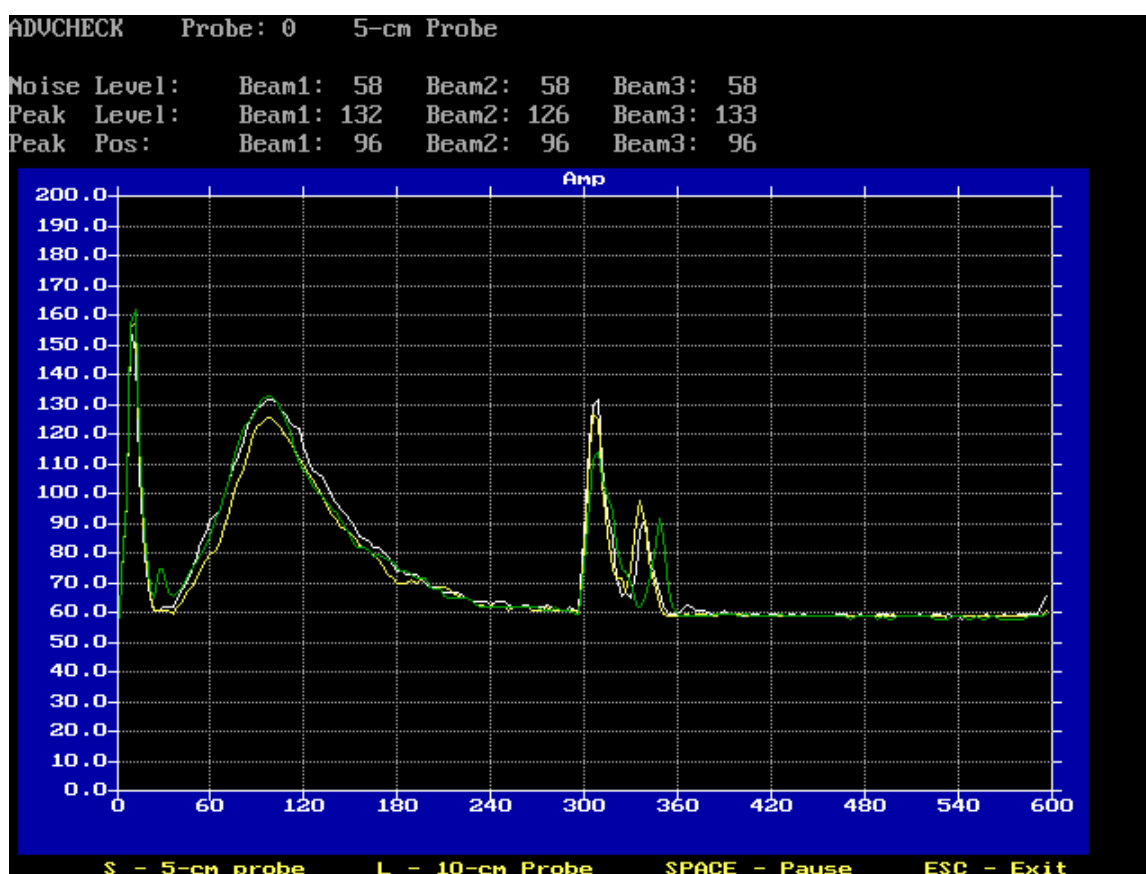

Figure 5 – ADFCHECK Display
The ADV sends a pulse of sound, and **ADFCHECK** plots the return signal strength for each of the three receivers as a function of time following the transmit pulse. The output plot shows several features: increased signal strength in a bell-shaped curve corresponding to the sampling volume, a sharp spike from the boundary reflection if within range, and signal leveling to the electronic noise level. The display is updated every 1-2 seconds and each plot is the average of a number of samples. Figure 5 shows an example of this output using data from a 10-MHz ADV with a 5-cm distance to the sampling volume.
Several important features can be identified in Figure 5. Each of these is described below, starting at the left side of the plot.
- When there is sufficient scattering material in the water, there will be an increase in signal strength in a bell shaped curve that corresponds to the transmit pulse passing through the focal point of the receivers. The peak of this curve corresponds to the center of the sampling volume. The exact location of the center of the sampling volume depends on the exact probe geometry. For the 10-MHz ADV, the peak is typically located at 90-105 counts for 5-cm probes, and at 175-195 counts for 10-cm probes. For 5-MHz ADV Ocean probes, the peak is typically located at 140-160 counts. All three receivers should see the peak in the same location, although there will be variation in the height and shape of the curve. It is possible to calculate the signal to noise ratio (SNR) from the height of this curve and the noise level (see below). For the example in Figure 5, the mean height of the curve is about 130 counts and the noise level is about 58 counts. SNR is then calculated by $(130-58)*0.43$, or about 31 dB.
- If the ADV is reasonably close to a boundary (bottom, surface, or side), a sharp reflection should be seen in **ADFCHECK**. The size and shape of this reflection will vary depending on the nature of the boundary, its distance from the ADV, and the acoustic conditions of the water. We can estimate the distance from the probe to the boundary by the location of the front edge of the boundary reflection. In Figure 5, this occurs at about 300 counts or 18 cm from the